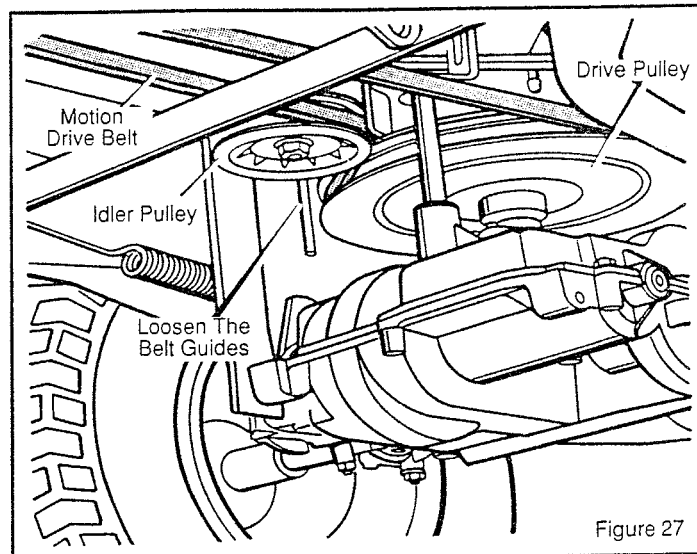
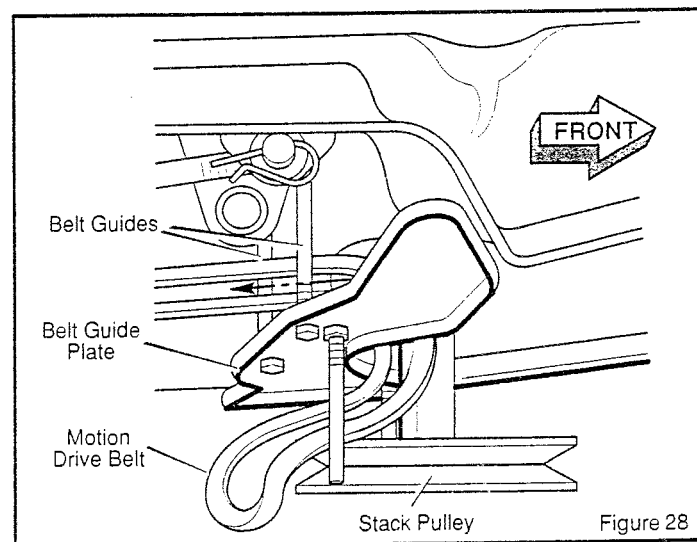

Figure 27
Figure 28
3. Remove the **idler pulley** (Figure 27).
6. To remove the **motion drive belt** from the **stack pulley**, pull the front end of the belt under the **stack pulley** and then back between the stack pulley and the **belt guide plate** (Figure 28).
1. Slide the **motion drive belt** between the **stack pulley** and the **belt guide plate** (Figure 28). Install the **motion drive belt** on the top pulley of the **stack pulley**. Make sure the "V" side of the belt is against the pulley.
3. Install the end of the **motion drive belt** around the **drive pulley** (Figure 27).
6. Make sure the **motion drive belt** is inside all the **belt guides** (Figure 27 and Figure 28).